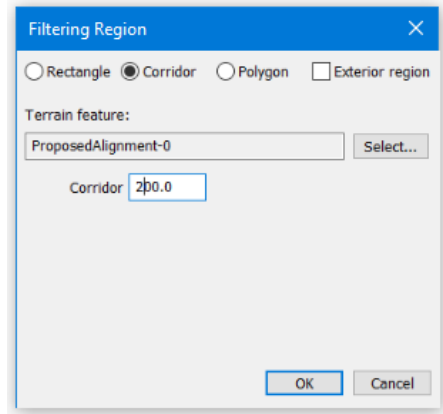

Figure 6-10: Filtering Options
16. Select *Corridor* (Figure 6-10). Then press *Select...*